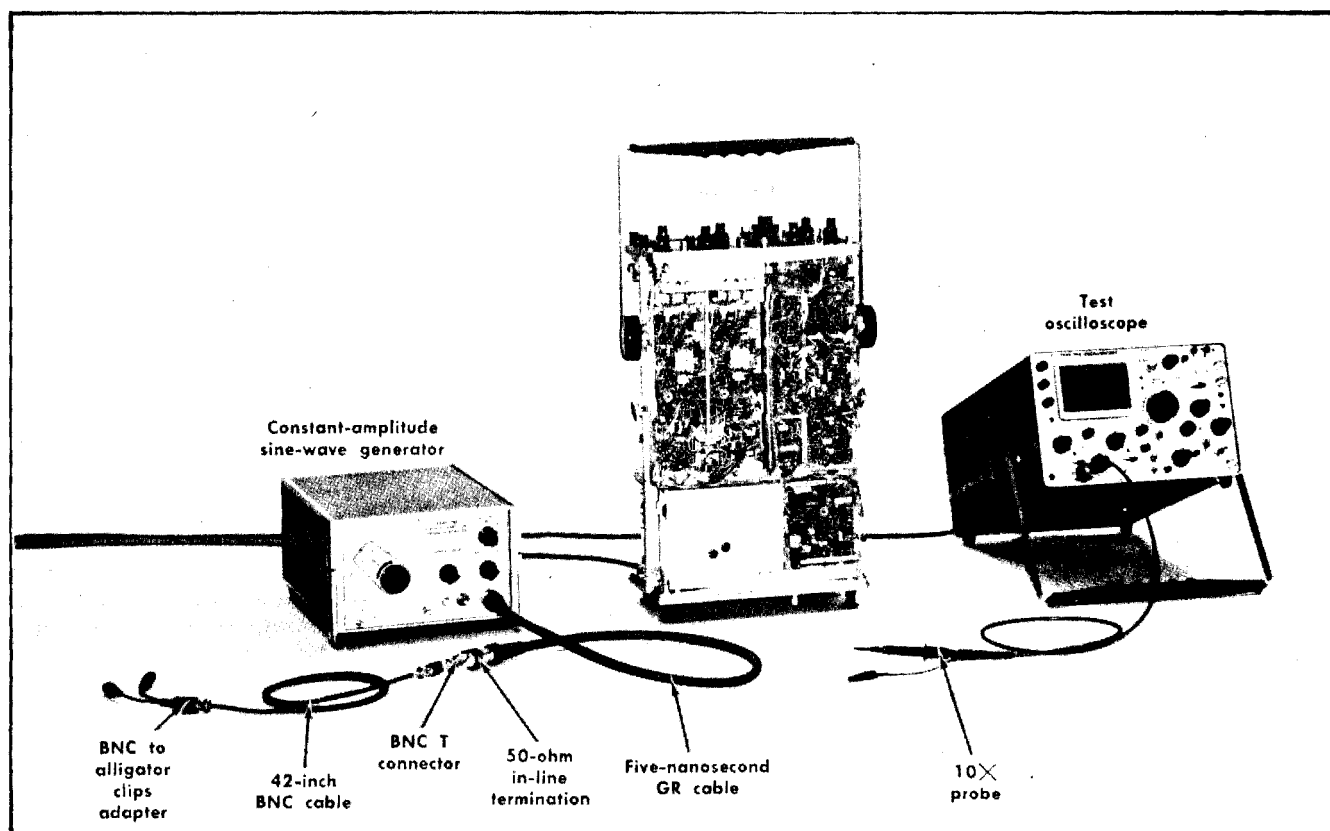

Fig. 6-60. Initial test equipment setup for steps 71 through 74.
①
a. Test equipment setup is shown in Fig. 6-60.